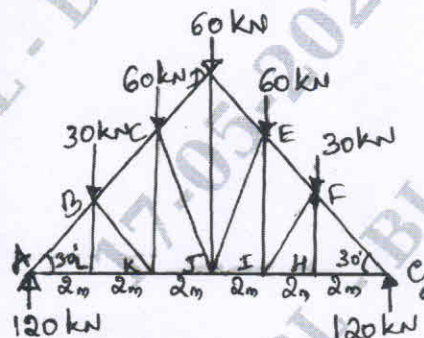

Fig Q3
- 3 The line diagram of a truss with loads and tabulation of factored member forces are shown in the Fig Q3. Design the various members of the roof truss along with their end connections with gusset plates by bolts. Assuming the thickness of supporting walls as 450mm , design the supports consisting the shoe angle bearing plate, base plate by considering support reaction and anchor bolts for an uplift force of 15kN at each support. The bearing pressure of concrete may be taken as 4N/mm^2 . [Refer Fig. Q3 and Table Q3]